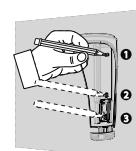

Figure 2: Marking screw holes
1. Mark and drill at least two holes in the mounting bracket (see Figure 2 and 3).
Note: To install tamper protection on the detector, mark and drill one hole for the tamper protection (hole number 3, Figure 2) and two holes in the other available slots (number 1 and 2, Figure 2).